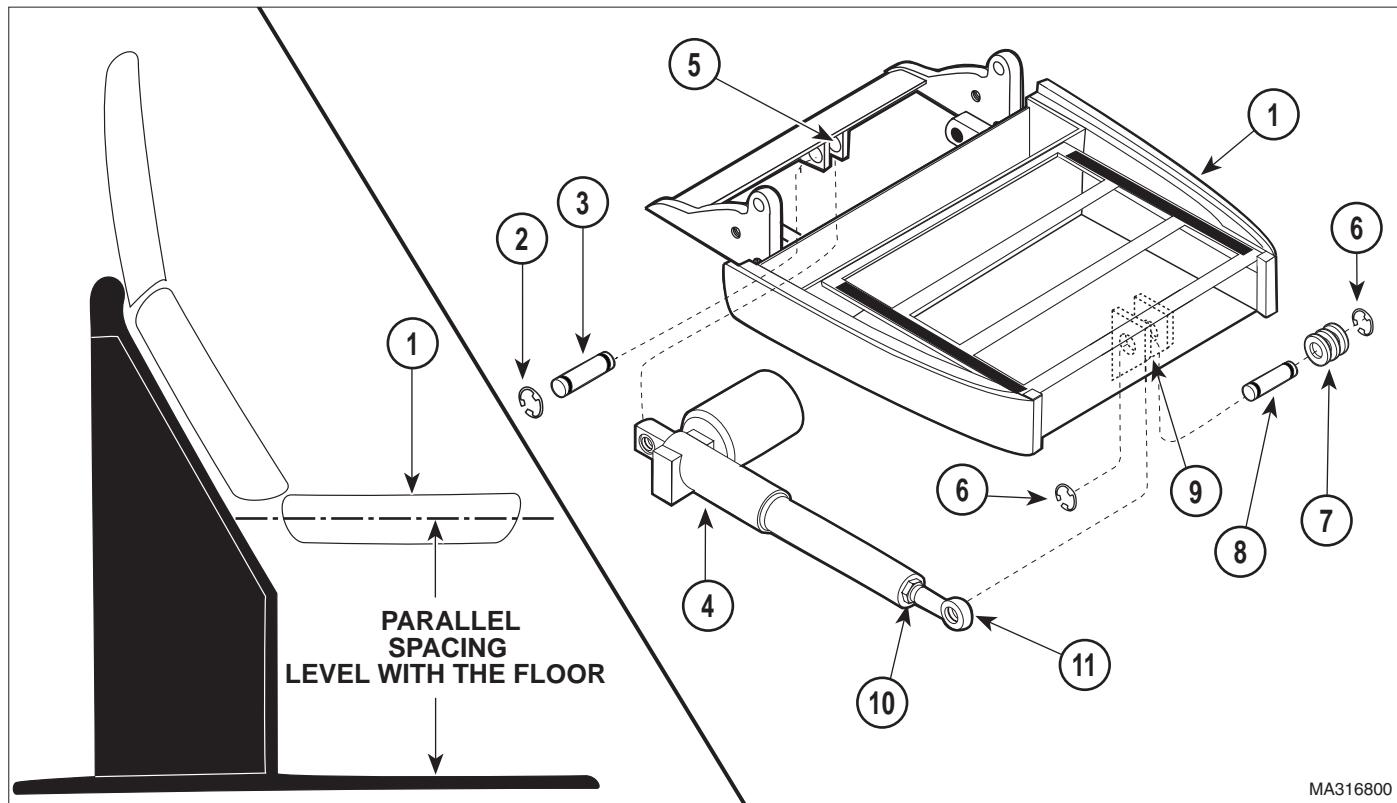

Figure 4-3. Seat Actuator Removal / Installation
- (7) On later units, remove two screws (9) and partially separate receptacle bracket (10) from pivot frame (11).
- (8) Cut any cable ties securing wire / wire harnesses to seat actuator (2).
- (9) While supporting seat section (1, Figure 4-3), remove two e-rings (2), clevis pin (3), and base of seat actuator (4) from bracket (5).
- (10) While supporting seat section (1), remove two e-rings (6), spacers (7), clevis pin (8), and seat actuator (4) from bracket (9). Remove seat actuator from chair.
- (1) Loosen jam nut (10, Figure 4-3); then remove swivel joint (11) from shaft of new seat actuator (4).
- (2) Coat threads of swivel joint (11) with permanent threadlocking adhesive (Loctite 262).
- (3) Screw swivel joint (11) into shaft of seat actuator (4).
- (4) While supporting seat section (1), install base of seat actuator (4) on bracket (5) and secure with clevis pin (3) and two e-rings (2).
- (5) While supporting seat section (1), install shaft end of seat actuator (4) on bracket (9) and secure temporarily with clevis pin (8).
- (10) Secure wires / wire harnesses to seat actuator (2) with a cable tie.
- (11) Install actuator sleeve (1) on shaft of seat actuator (2) and secure with two cable ties.
- (12) Run SEAT UP function all the way up and then run TABLE DOWN function all the way down.
- (13) If seat section (1, Figure 4-3) **is** level with floor, go to step 18. If seat section (1) **is not** level with floor, go to step 14.
- (14) While supporting seat section (1), remove clevis pin (8) securing swivel joint (11) of seat actuator (4) to bracket (9).
- (15) Screw swivel joint (11) in or out as determined necessary in step 13.